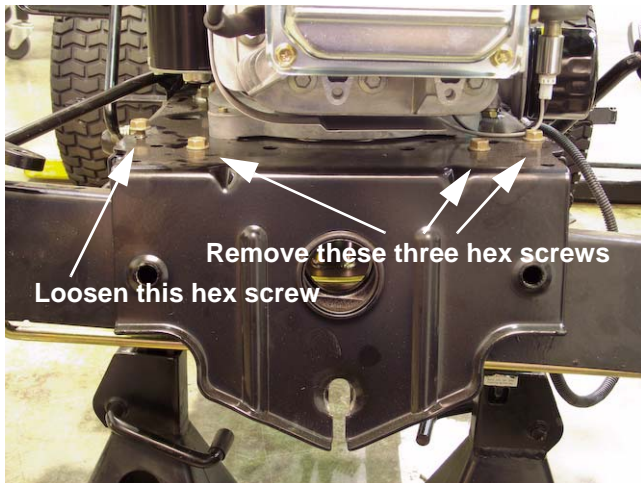

Figure 3.10
9. Remove the hex screws on the left side of the tractor that secure the front pivot bracket. See Figure 3.10.